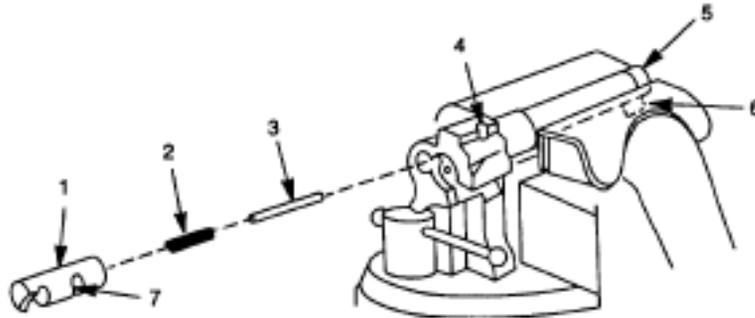

Figure 3. Bolt Assembly in Vise.
1. Position bolt body (Figure 3, Item 5) in protective jawed vise with cam lobe (Figure 3, Item 6) in down position.
2. Install new pin guide (Figure 3, Item 3), new extractor spring (Figure 3, Item 2), and new extractor (Figure 3, Item 1) (all components of parts kit, gun, extractor) into extractor hole and align slot (Figure 3, Item 7) of extractor (Figure 3, Item 1) with hole (Figure 3, Item 4) for extractor pin.